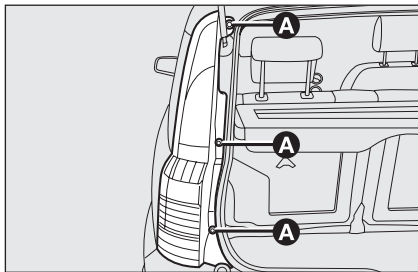

fig. 32
- slacken the three screws **A**-fig. 32 from their seats, pull gently outwards until releasing the whole headlight from the three clips (press-fitted) and release the connector;